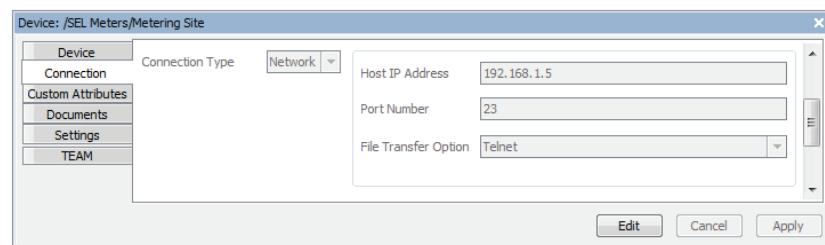

Figure 190 SEL-735 Connection Parameters
- Step 3. Select the **Connection** tab and set the **Connection Type** to **Network**. Configure the **Host IP Address** to match the address of your meter. For this example, use **192.168.1.5**. Leave the **File Transfer Option** as **Telnet** and the **Port Number** as **23**. *Figure 190* shows the SEL-735 connection parameters.